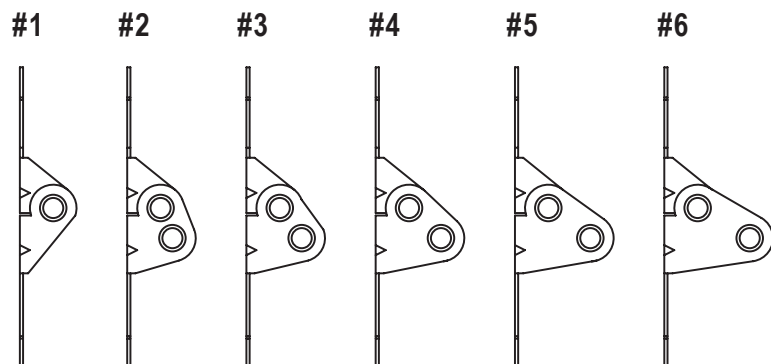

Fig. 2-S
Step 1: On the inside of your opening should be framed with wood jambs, 2" x 6" [51 mm x 152 mm] if possible, or with steel channel. The side jambs should extend to approximately the same height as the headroom required. If you have just removed an old door, the condition of the jambs should be inspected. If the jamb has deteriorated, it should be replaced now. The jambs should be plumb and the header level. If there are any bolts fastening the jambs to the wall, the heads should be flush so they don't interfere with the installation of your new door. (Fig. 1-J) Typical installation for wood, steel or masonry jamb material is shown in Fig. 2-J.
Install hinges on end and center stiles of the bottom section using #14 x 3/4" [6 mm x 19 mm] self-drilling screws. See Fig. 2-S for sequence and hinge placement.
Step 3: #2 Section. Attach bottom half of center hinges to top of section using #14 x 5/8" [6 mm x 16 mm] hex head sheet metal screws. Attach end hinges. (Fig. 2-S) Attach reinforcement strut, if supplied. Refer to "Door Reinforcement Attachment" for instructions. If section has lock see Step 4 for sequence. Stack section. After section is stacked, rollers in the track will hold section in place.
Step 5: #3 Section & Up (Does not include Top Section). Place section face down on saw horses. Attach bottom half of center hinges to top of section using #14 x 5/8" [6 mm x 16 mm] hex head sheet metal screw. Attach end hinges. (Fig. 2-S). Attach reinforcement strut, if supplied. Refer to "Door Reinforcement Attachment" for instructions. After section is stacked, rollers in the track will hold section in place.